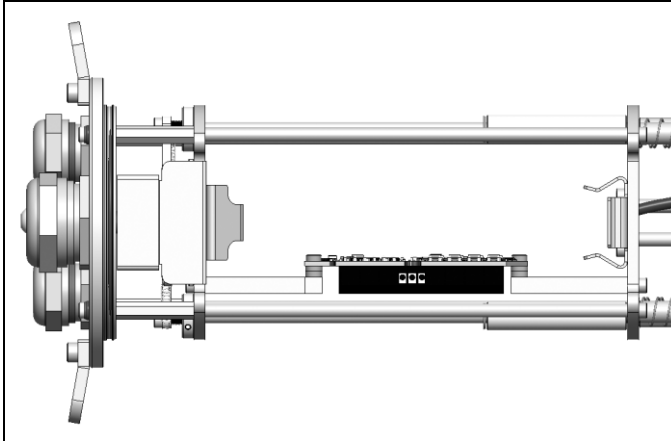

Figure 33: Mounting of the Industrial PIF (top view)
5. Fix the Industrial PIF with the screws (M3x5) as shown in **Figure 33**.